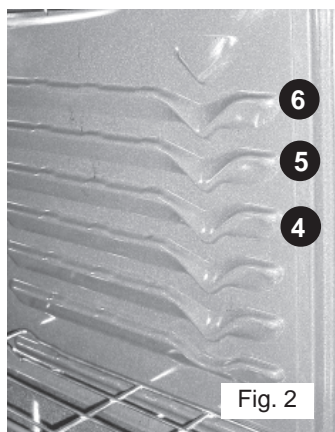

Fig. 2
- When using 2 oven racks at the same time, place in positions 2 & 5 for best results (See Fig. 2)
Broil Rack Position Table (Refer to Fig. 2)